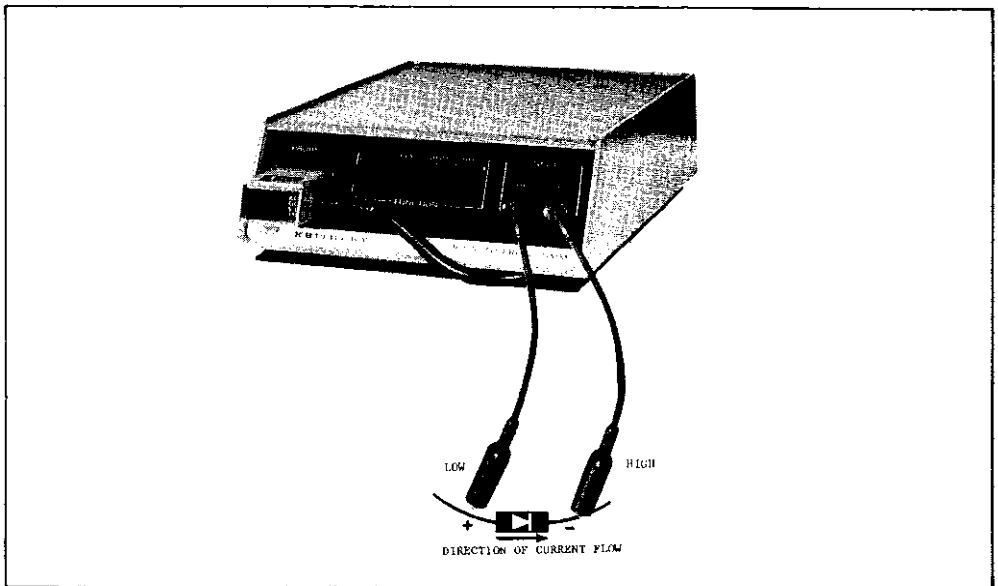

FIGURE 6. Measurement of Diode Resistance
1. Forward Resistance. When the Model 167 input is shorted in the OHMS mode, the autoranging circuit down-ranges to the 2 kilohm range. On this range the test current supplied is 0.9 mA. This current is sufficient to cause conduction of most silicon junctions. Therefore, when checking the forward resistance of a junction, short the Model 167 input terminals and connect the diode as shown in Figure 6. Then, with the Model 167 in the OHMS mode, remove the short circuit and read the resistance displayed on the Model 167. For a silicon diode, the forward resistance should indicate less than 1000 ohms (typically 600 ohms) for a normally conducting junction. If the short circuit is not applied prior to connecting the diode to the input, the Model 167 may up-range to the 20 megohm range where the test current may not be sufficient to cause the diode to conduct. For a silicon diode, the display should read approximately 5 megohms or less.